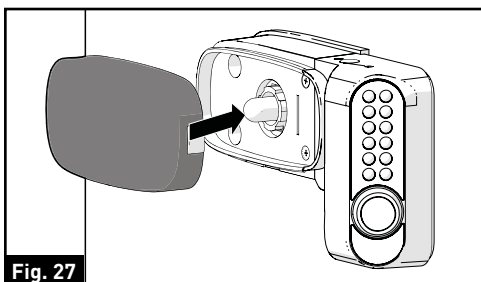
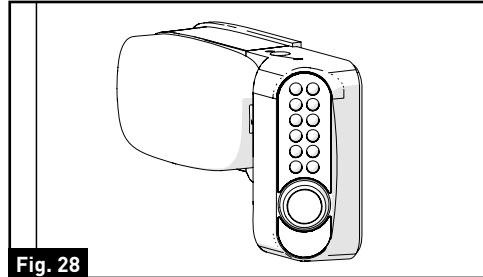

Fig. 27
Fig. 28
7. Replace the lens cover over the traffic light base and press until a "click" is heard. The camera is now fully installed onto the vehicle. (Fig. 27 and Fig. 28)